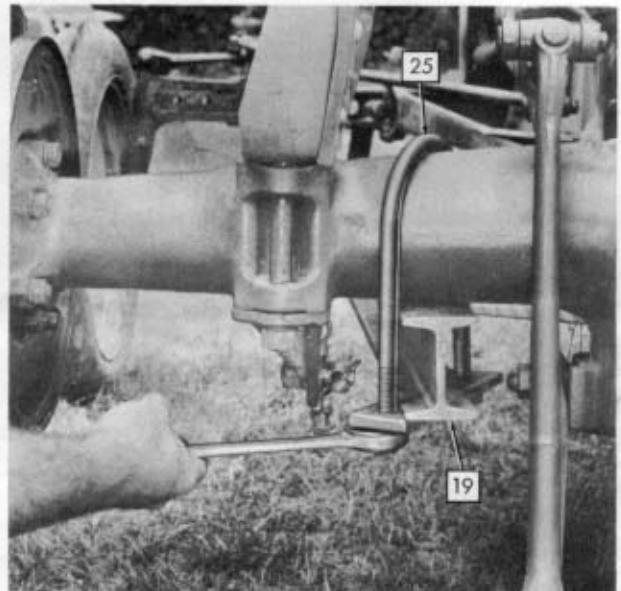

Figure 9
**Step 3:** Slide the right-hand and left-hand push beams (19) through the stirrups and connect them to the rear axle housing by means of the large U-bolts (25) as shown in Figure 9. Note that each push beam has a cross plate welded on it which helps determine which side it goes on the tractor and ties diagonally to the U-bolts.